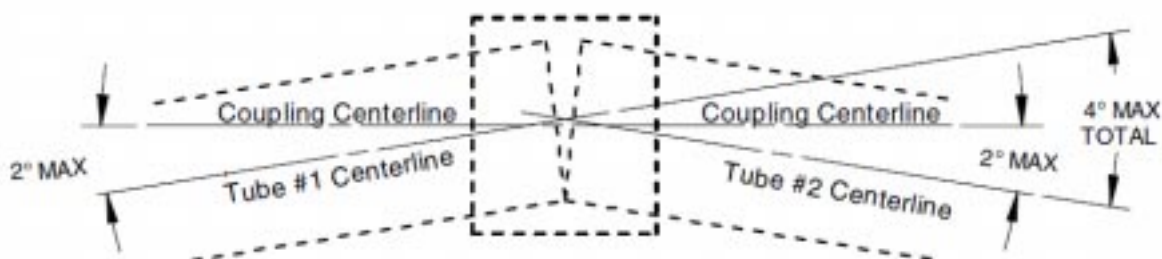
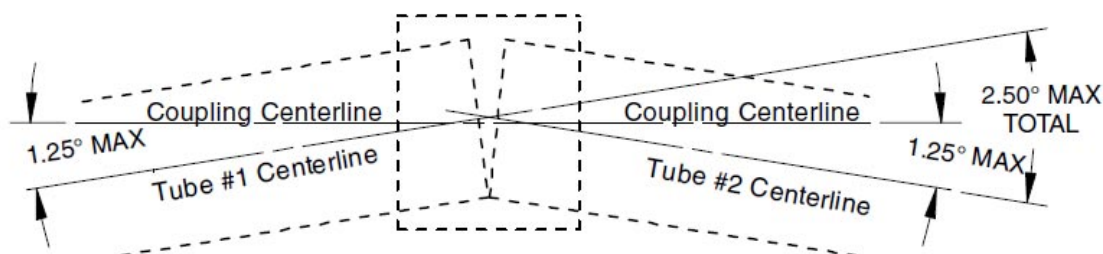

Figure 7 - B0305080 and B0305144 Coupling Alignment Limits
Figure 8 - B0305081 Coupling Alignment Limits
- Step 2. For B0305080 and B0305144 couplings, ensure that the coupling alignment meets the requirements of Figure 7. For B0305081 couplings, ensure that the coupling alignment meets the requirements of Figure 8.